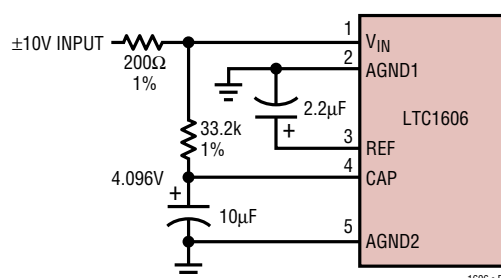
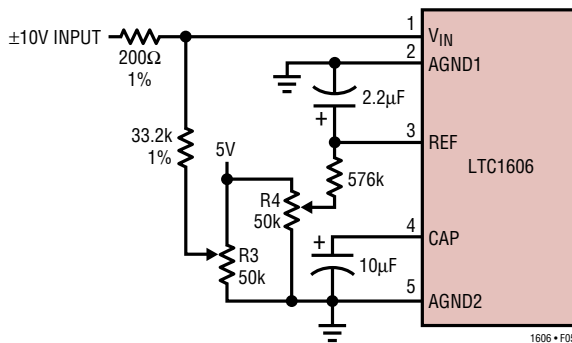

Figure 4.  $\pm 10\text{V}$  Input Without Trim
Figure 5.  $\pm 10V$  Input with Offset and Gain Trim
**Note 12:** As measured with fixed resistors shown in Figure 4. Adjustable to zero with external potentiometer.
The LTC1606 offset and full-scale errors have been trimmed at the factory with the external resistors shown in Figure 4. This allows for external adjustment of offset and full scale in applications where absolute accuracy is important. See Figure 5 for the offset and gain trim circuit. First, adjust the offset to zero by adjusting resistor R3. Apply an input voltage of  $-152.6\mu\text{V}$  ( $-0.5\text{LSB}$ ) and adjust R3 so the